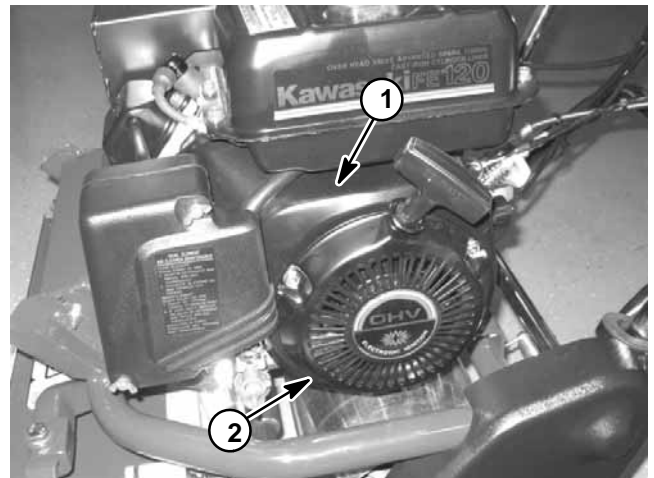

Figure 3
3. Clean blower housing of dirt and debris (Fig. 3). Remove housing if necessary.